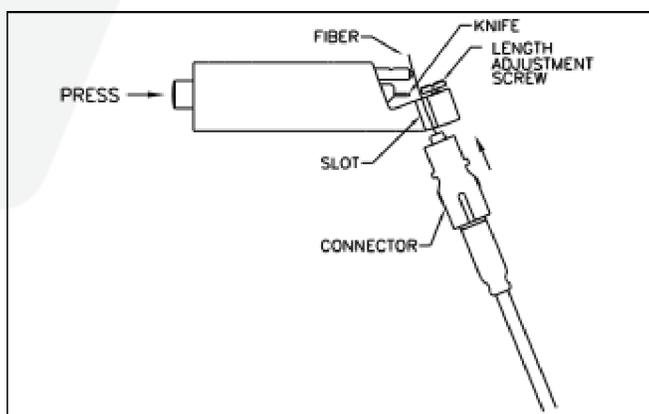

Figure 12: Ensure the ferrule is fully seated against the length adjustment screw.
14. Hold the cleave tool as shown in Figure 12. Guide the fiber along the slot on the side of the tool and insert the ferrule into the cleave tool to a positive stop. Caution should be exercised not to break the fiber. Holding the connector away from you, completely depress the trigger to cleave the fiber. The cleave tool is factory adjusted to a height of approximately 125 micron above the ferrule surface. See page 10 for troubleshooting tips should poor cleave result. Remove the connector from the tool and, with a piece of tape, dispose of the fiber waste. NOTE: Epoxy on the ferrule face or fiber may damage the diamond blade in the cleave tool. If necessary, contact the factory for blade refurbishment.